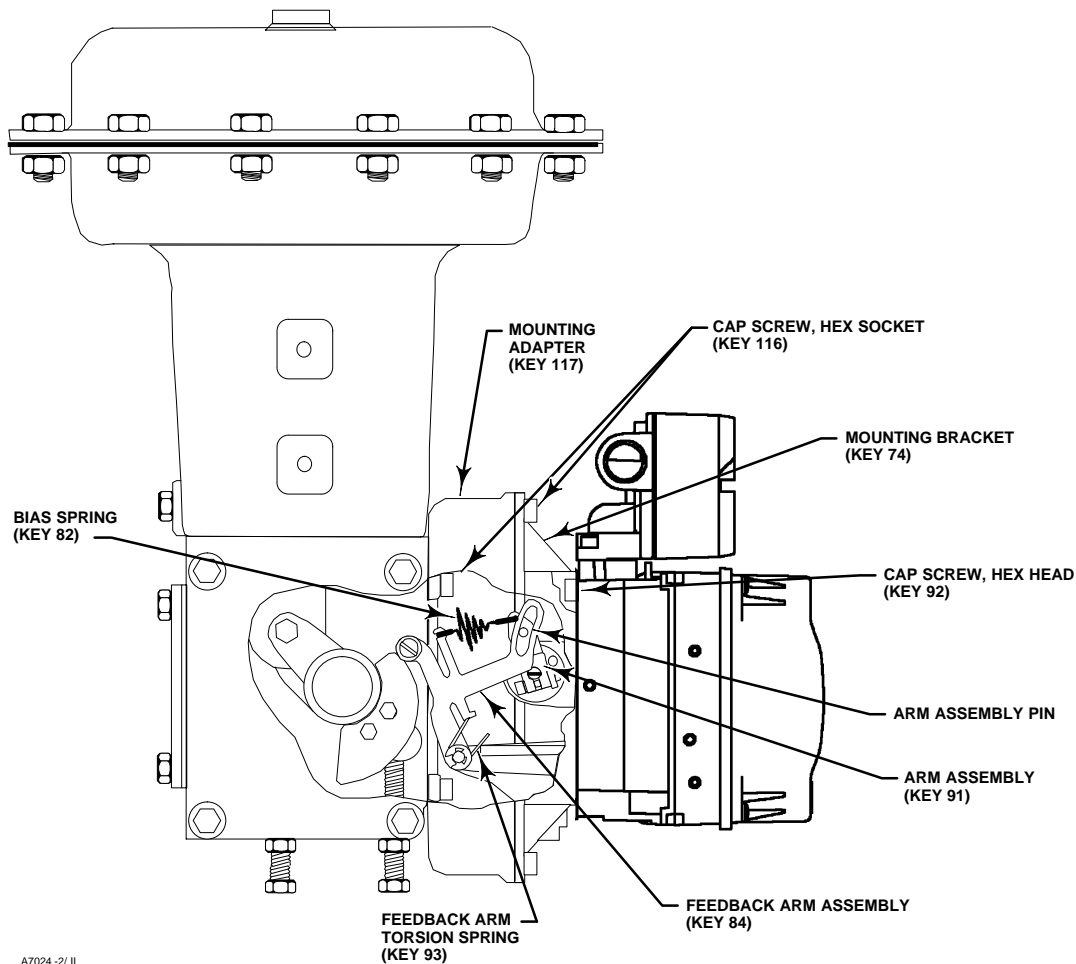

Figure 5-5. FIELDVUE DVC6020f Digital Valve Controller Mounted on Fisher 1052, Size 33 Actuator
- See figure 5-5 for parts identification. Disconnect the bias spring (key 82) from the feedback arm